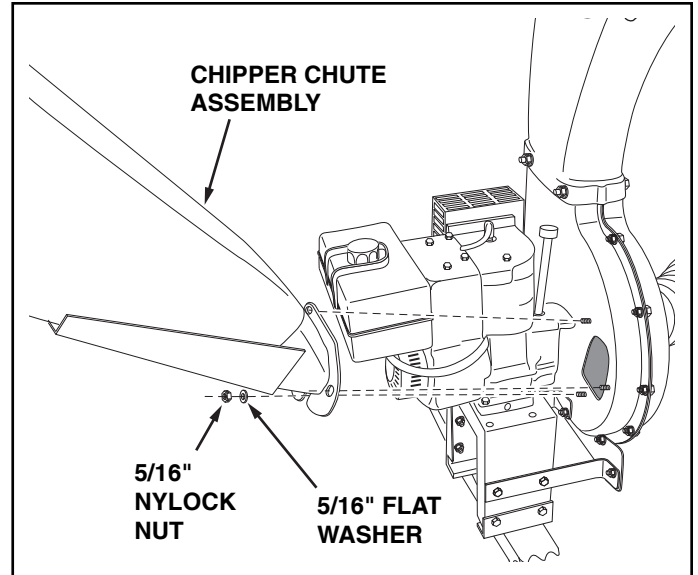

FIGURE 21
37. Attach the chipper chute assembly to the weld bolts on the back side of the impeller housing using three 5/16" flat washers and 5/16" Nylock nuts. **Tighten.** See figure 21.